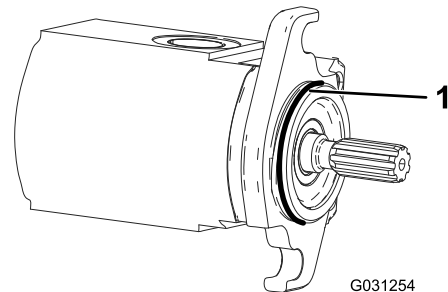

Figure 5
5. Grease the side plate until excess grease comes out of the grease vent (Figure 5).